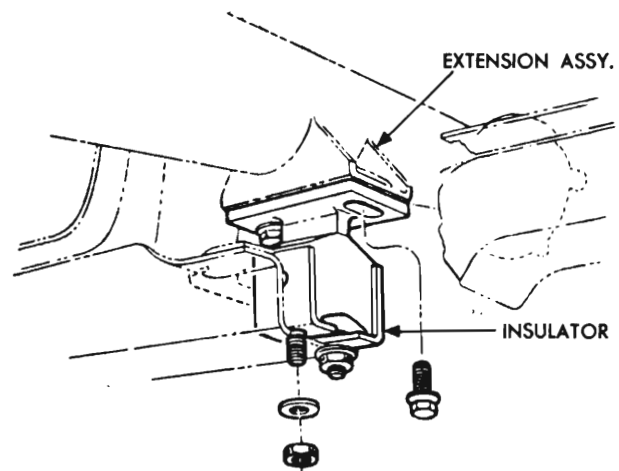

Fig. 4 - Rear engine support
- (4) Disconnect the brake booster vacuum hose from the manifold (where equipped).
- (5) Air conditioned models — Disconnect the AC tubes at body and condenser and plug openings. Remove the outlet vent valve from cylinder cover.
- (6) Disconnect the fuel lines, carburettor controls and wiring from engine components.
- (7) Disconnect the exhaust pipe(s) at the manifold, move exhaust pipe(s) and muffler assembly aside to provide clearance.
- (8) Raise vehicle on hoist (where used).
- (9) Drain the converter (where equipped with drain plug) and the automatic transmission. Remove oil cooler lines, filler tube and gear selection rod (automatic transmission models).
- (10) Remove the clutch torque shaft (manual transmission models).
- (11) Remove the speedometer cable and gear shift rods (manual transmission models).
- (12) Remove the propellor shaft and carefully install plug in output shaft seal to prevent spillage.
- (13) Install the engine support fixture (or equivalent) to support rear of engine.
- (14) Remove the engine rear support cross-member (See Fig. 4).
- (15) Remove the transmission bolts from clutch housing (manual transmission models) or remove housing bolts (automatic transmission models).
- (16) Remove transmission.
- (17) Lower the vehicle (where raised).
- (18) Install the engine lifting fixture (Tool E9C15B) to the cylinder head and attach a hoist to the fixture front loop.
- (19) Remove the engine rear support fixture.